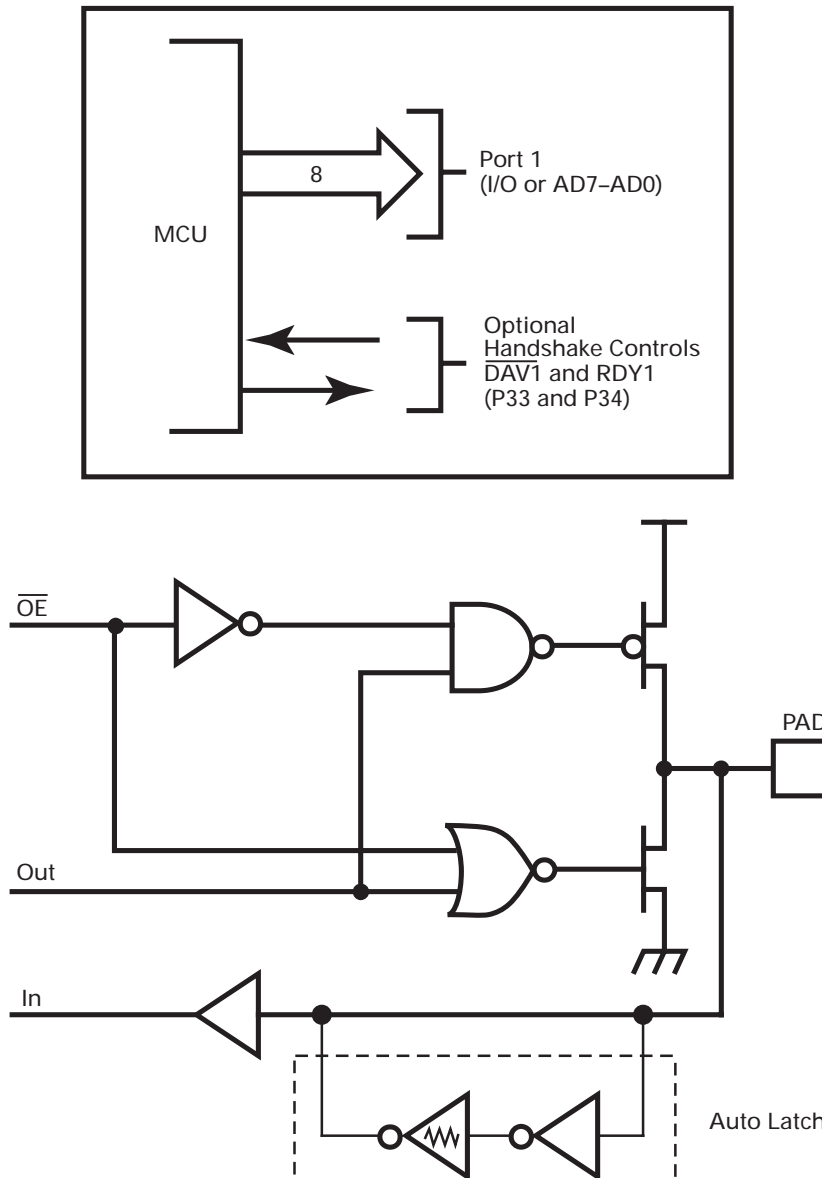

Figure 2. Port 1 Configuration
**Port 1 (P17–P10).** Port 1 is a multiplexed Address (A7–A0) and Data (D7–D0), CMOS-compatible port. Port 1 is dedicated to the Zilog ZBus®-compatible memory interface. Port 1 operations are supported by the Address Strobe ( $\overline{AS}$ ) and Data Strobe ( $\overline{DS}$ ) lines, and by the READ/WRITE ( $R/\overline{W}$ ) and Data Memory ( $\overline{DM}$ ) control lines. Data memory READ/WRITE operations are done through this port (Figure 2). If more than 256 external locations are required, Port 0 outputs the additional lines.